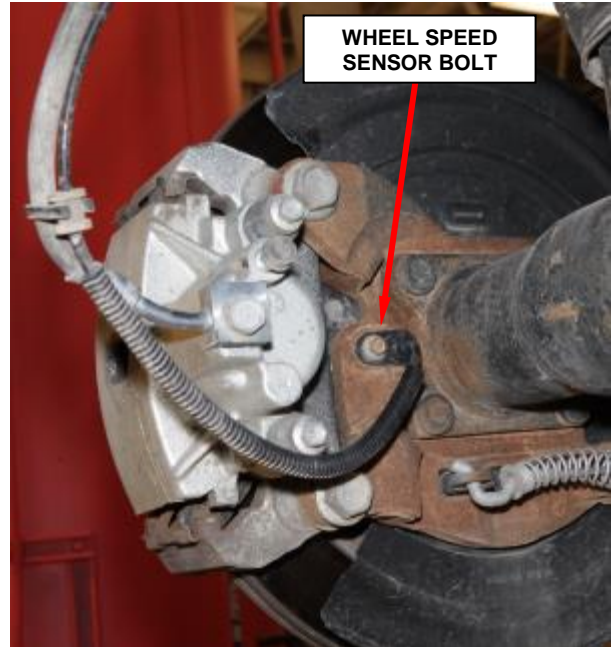

Figure 4 – Wheel Speed Sensor Bolt
5. Remove and save both mounting bolts from the wheel speed sensor (Figure 4).